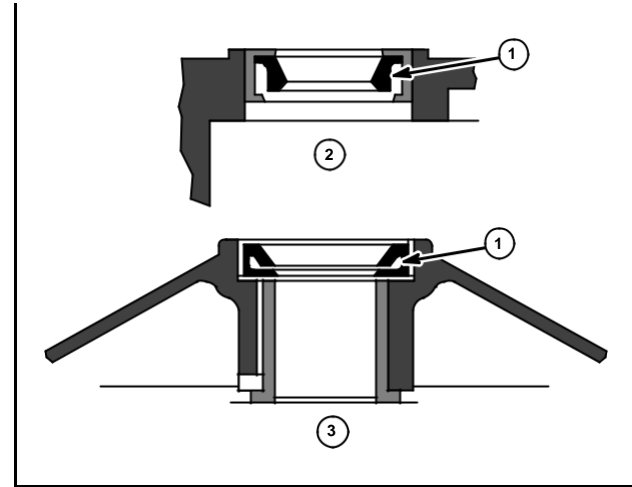

Fig. 35 – Installing Seals
1. Install seal with sealing lip (1) towards engine side of gear case (2) or cover (3) until seal is flush with surface of case (when used) or cover, Fig. 35.